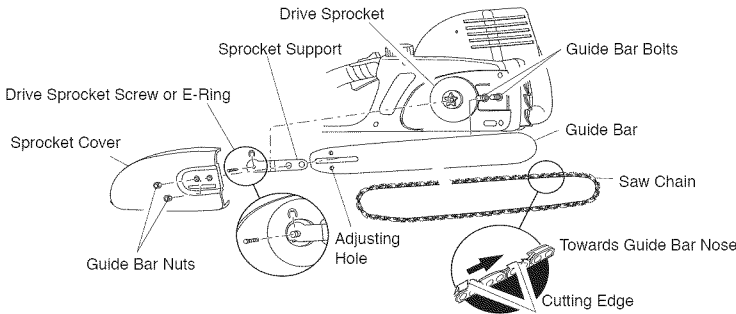

Figure 4 - Assembling Guide Bar and Chain
3. Loosen and remove drive sprocket screw or remove E-ring from shaft (see Figure 4). Remove sprocket support.
6. Place chain around drive sprocket, along top groove of guide bar, and around guide bar nose. **Note:** Make sure cutting edges of chain are facing in right direction. Position chain so cutting edges on top of guide bar face guide bar nose (see Figure 4, and indicator on side cover of saw).
9. Turning chain tensioning knob (Model RM1635W) or chain tensioning screw (Model RM1632A), adjust position of adjustment block until it is aligned and inserted into the round adjusting hole on guide bar (see Figure 4, 5 and 6). Turning chain tensioning knob or chain tensioning screw counterclockwise will move adjustment block to rear of guide bar. Turning chain tensioning knob or chain tensioning screw clockwise will move adjustment block to front of guide bar.